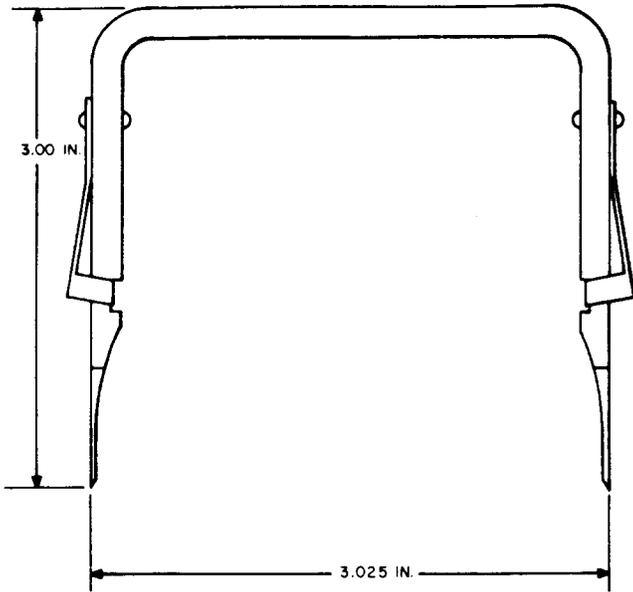

Fig. 3—792A Remover Tool
**2.03 792A:** The 792A tool (Fig. 3) is a remover used for removing 82A and 83A apparatus mountings.